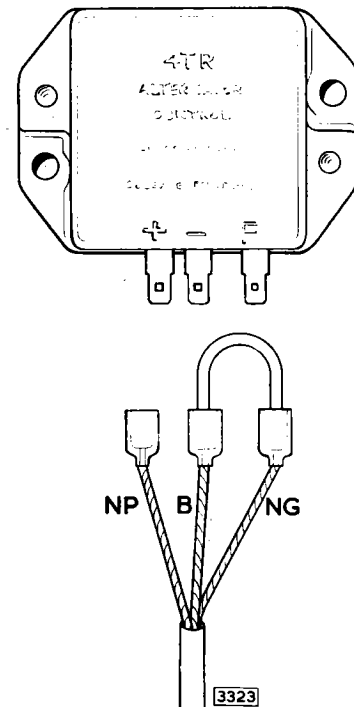

Fig. 9. Detach the terminal connectors from the base of the control unit.
- (c) Detach the terminal connector block from the base of the control unit and connect the black and brown/green cables together by means of a short length of cable with two "Lucar" terminals attached. This operation connects the alternator field winding across the battery terminals and by-passes the output control unit (Fig. 9).